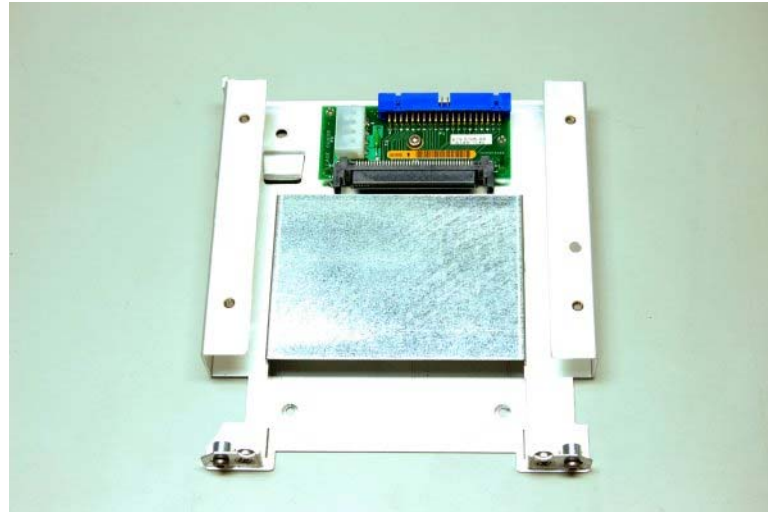

Figure 24: Installed IDE adapter board
2. Snap the IDE Adapter Board (part number 679-5705-xx) onto the two posts on the RHDD/DVD bracket. Attach the board to the bracket with one screw (part number 211-1050-xx) using a T15 driver. See Figure 24.